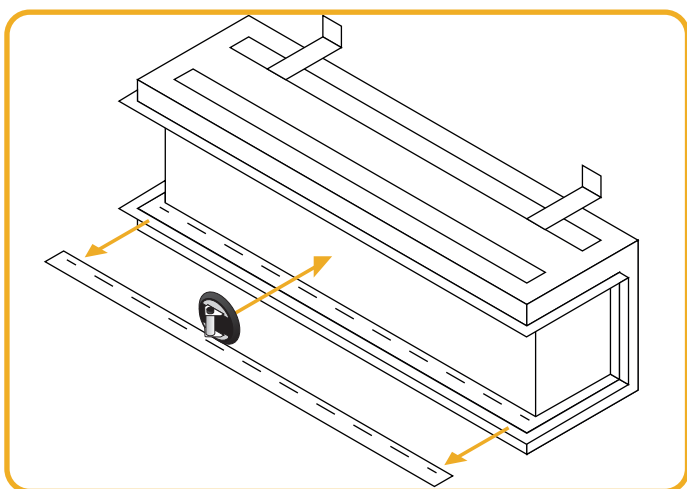

Figure.9.3 | Remove second glass retainer strip
- After removing the glass retainer strip, place the suction cup on the glass before removing the second glass retaining strip. See Figure 9.3.